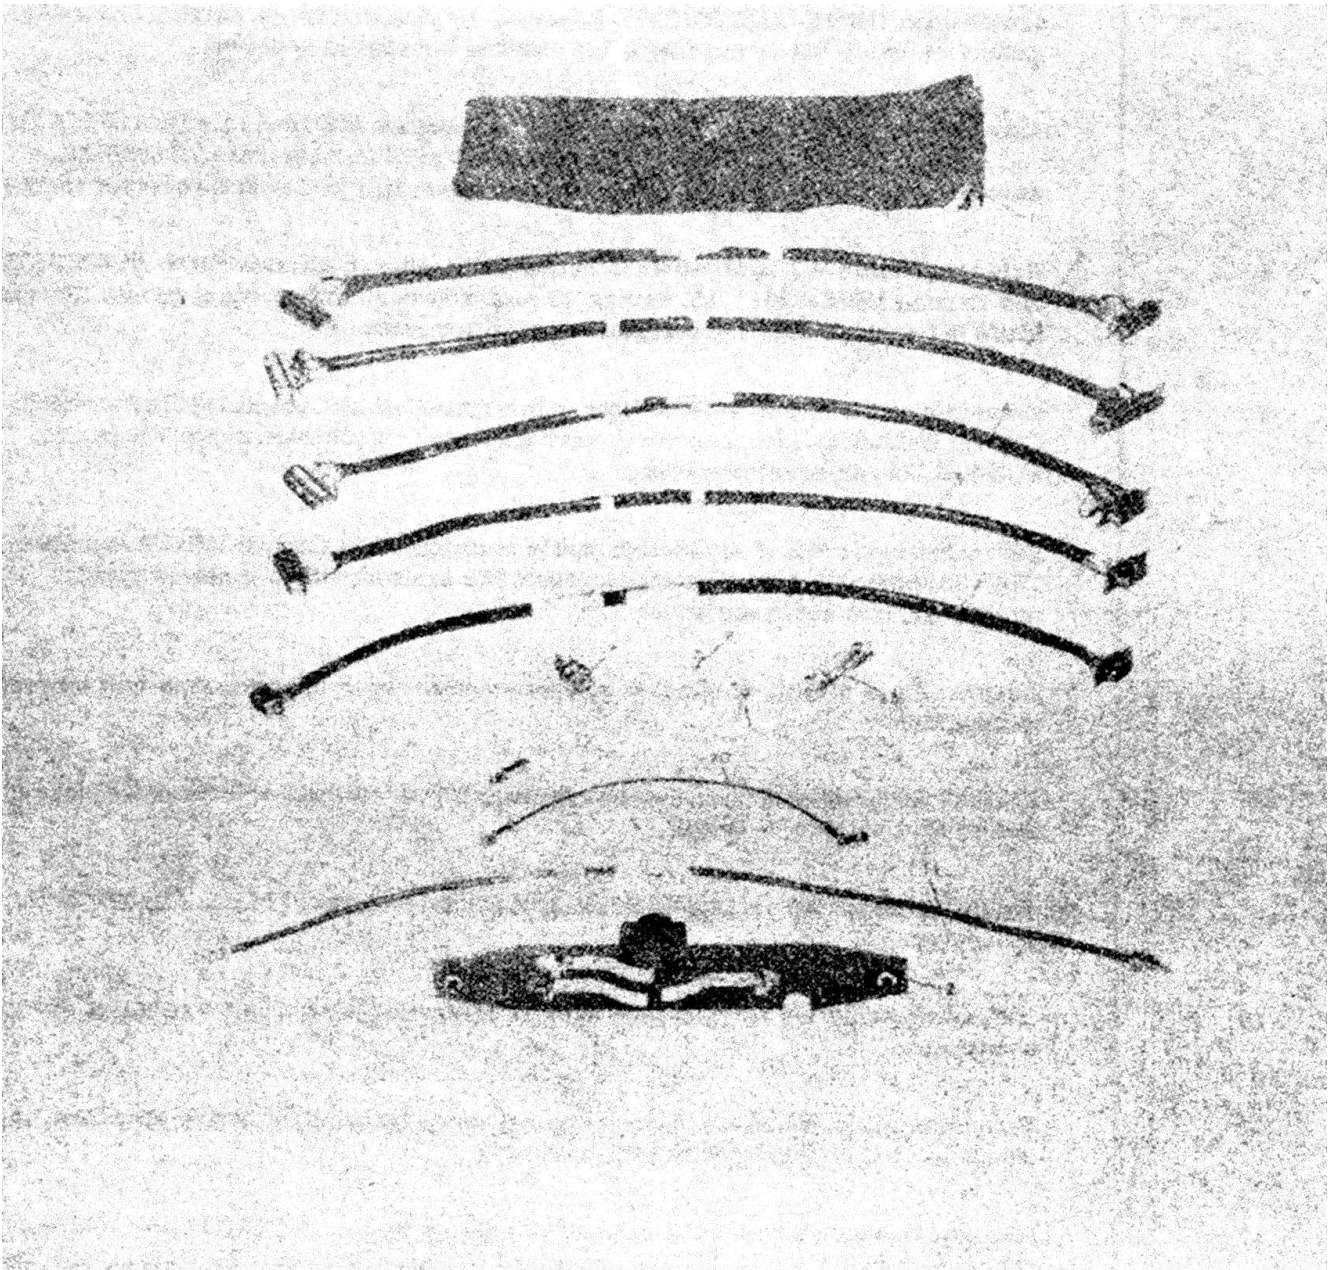

Figure 1-12. Maintenance Cable Kit
(11) MAINTENANCE CABLE KIT. - Refer to figure 1-12. The maintenance cable kit is composed of five